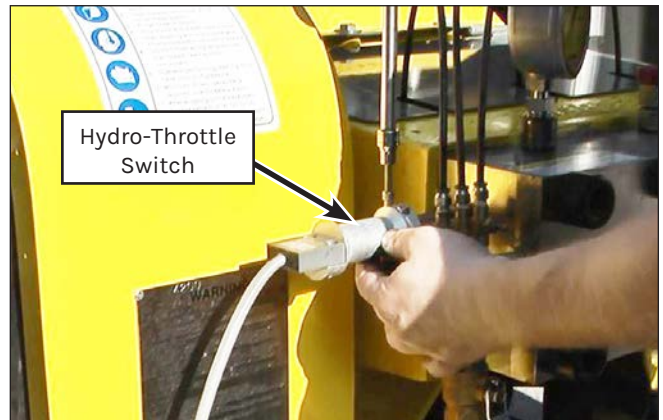

Figure 57: Hydro-throttle Switch.
3. Remove the two bolts that secure the hydro-throttle switch aluminum housing (Figure 57) to the brass cartridge in the manifold. Remove the switch and housing and set aside.